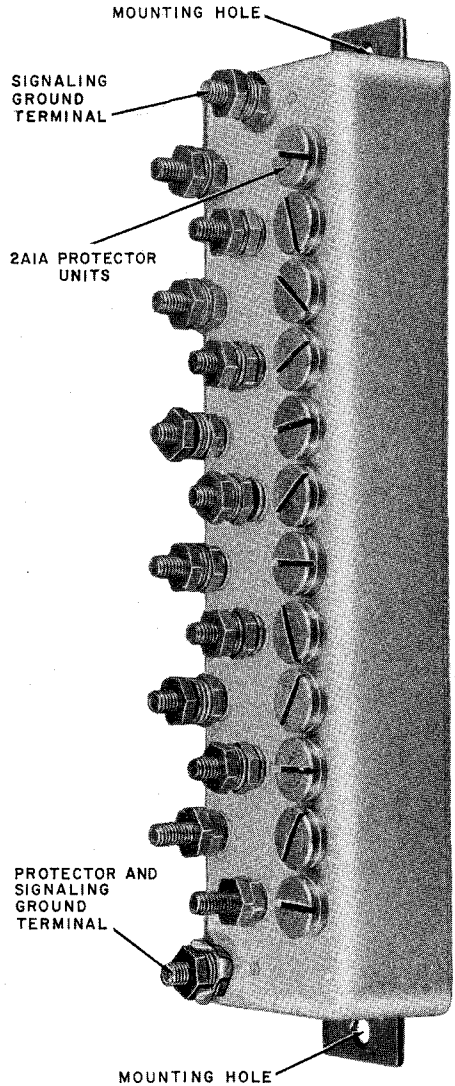

Fig. 14—117B Protector
3.16 The 117B protector (Fig. 14) consists of a nonconductive base containing twelve binding posts, twelve 2A1A protector units, one binding post for signaling ground, and one binding post (equipped with a pronged washer) for signaling ground and protector ground. The 117B protector should be grounded with a wire no smaller than a No. 10 ground wire (Table B). The 117B protector is designed for indoor use and generally used with 6-pair multiple drop wire.